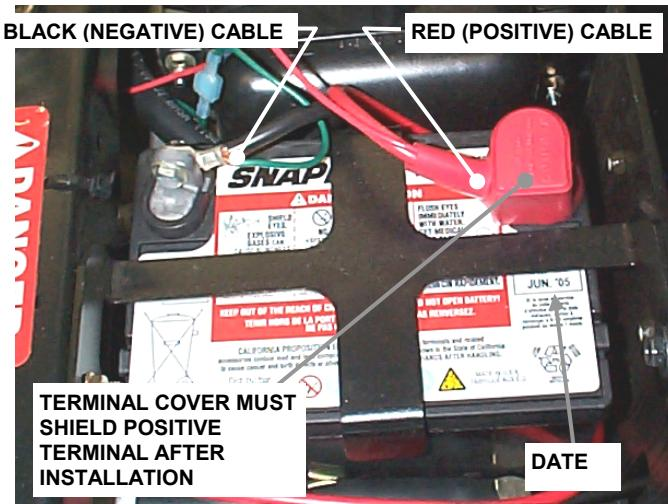

FIGURE 3
**STEP 3:** Check the date on the battery label. See Figure 3. If battery is placed into service after date shown on label, battery will have to be charged:
**STEP 5:** Both bolts are already installed on both terminals. Connect positive (+) cable (red) first, from wiring harness to the positive terminal (+) on battery and secure with nut provided in hardware bag. Connect negative (-) cable (black) last, to negative terminal (-) on battery and secure with nut also provided. See Figure 3. Apply a small amount of grease over terminals to prevent corrosion.